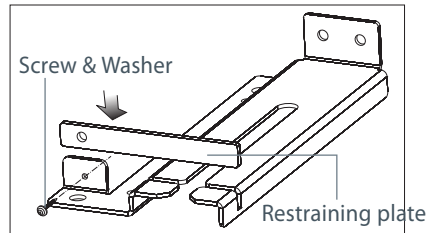

Fig. 7 Fixing the restraining plate
- 5 Fix the restraining plate by sliding it into place and securing it with the fixing screw and washer supplied. See Fig. 7.